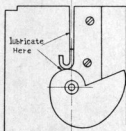

Fig. 7-1
- d. For lubrication to the cam riders, see Fig. 7-1.